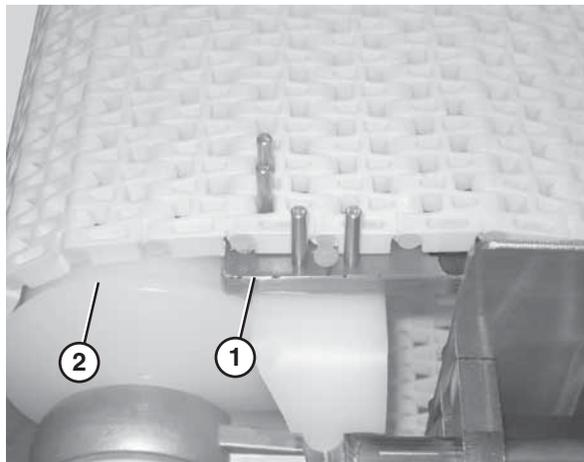

Figure 50
2. Secure the retaining head side of the belt. Use the belt removal tool (Figure 50, item 1) for 1" pitch belts. For all other belts, position the section of belt so that it is braced by the flanged puck (Figure 50, item 2).